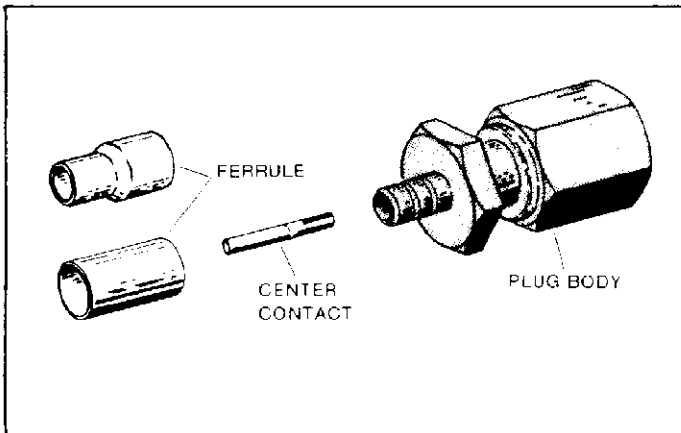
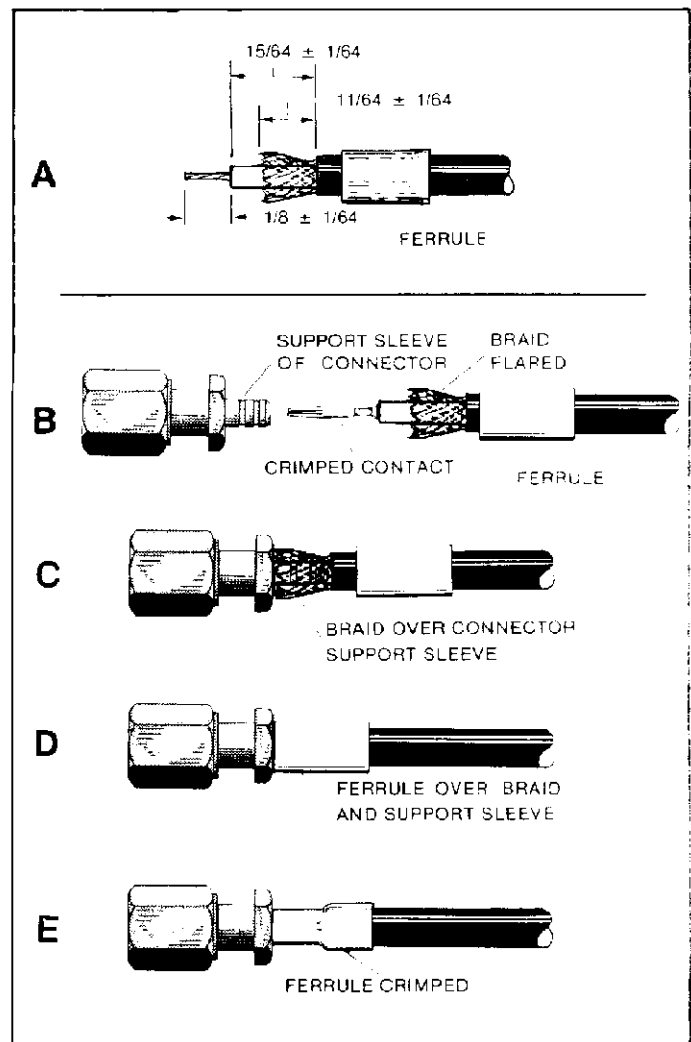

Figure 2
Figure 3
Figure 2 shows a typical COAXICON series SMC plug assembly. Detailed crimping instructions are packaged with the crimping tools and dies. Refer to Figure 3 and steps below for assembly procedure.
2. PLUG ASSEMBLY (Figure 3)
- (a) Slide ferrule onto cable and strip cable to dimensions shown. (Note orientation of stepped ferrule in figures 2 and 4.) Flare braid.